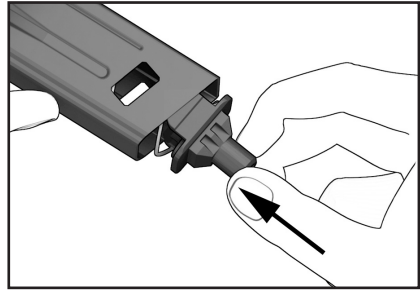

Figure 44
4. Push the locking plate into the magazine housing against the pressure of the magazine spring and hold it there. (Figure 44)